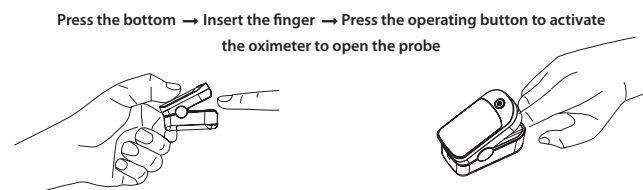

Figure 4. Operation Guide
- Hold the oximeter with the display facing toward you, slide your finger into the opening probe of the device as shown below (Figure 4), until the fingertip touches the built-in stop guide. For best results, make sure the finger is centered within the finger guide.